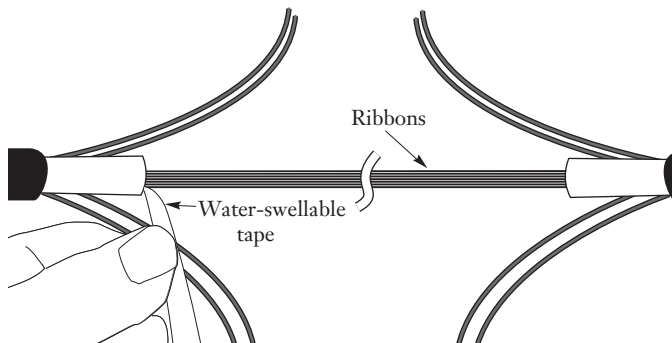

Figure 28
- Carefully separate the water-swellaable tape from the ribbons (see Figure 28).